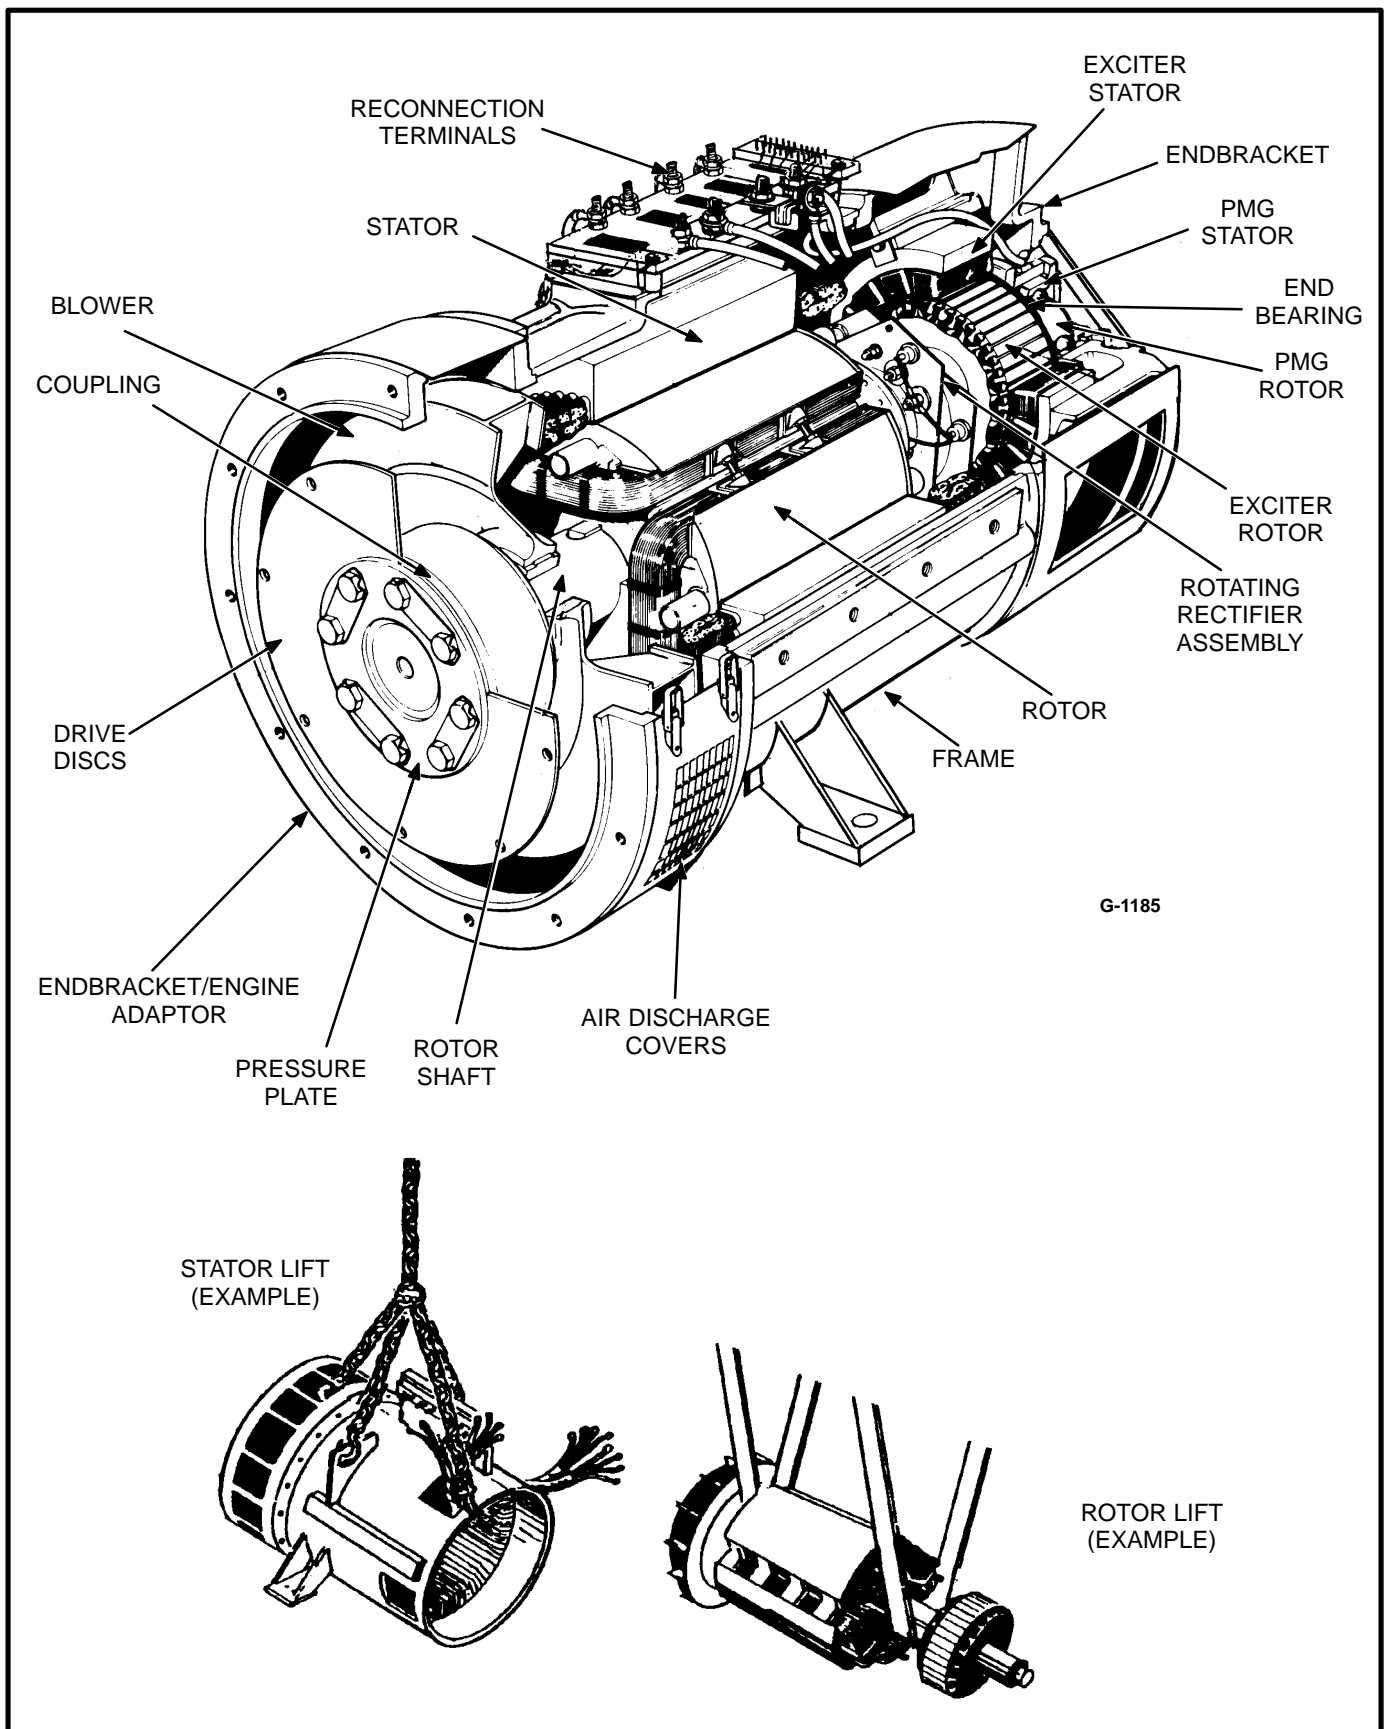
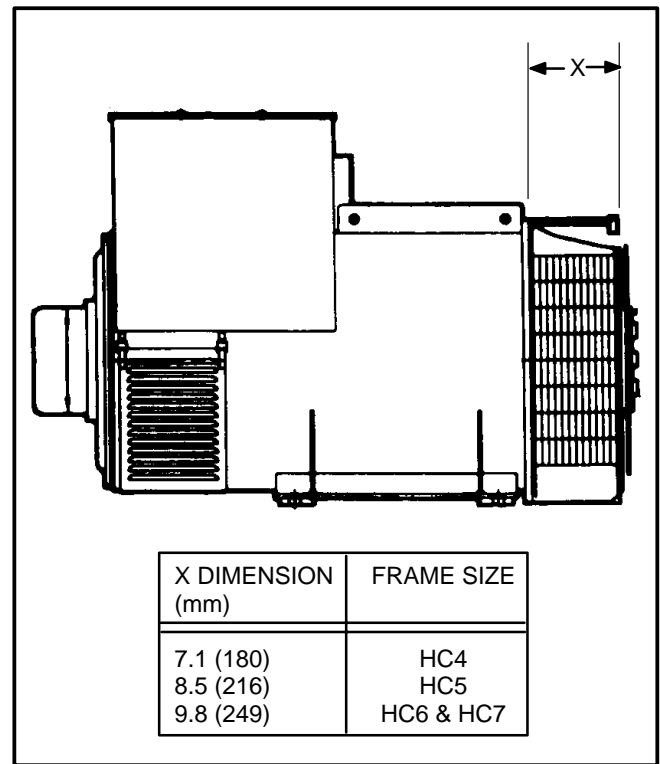

FIGURE 6-11. TYPICAL GENERATOR ASSEMBLY
FIGURE 6-13. GENERATOR FRAME SIZE
22. Using a forklift, position a lifting bar of the forklift (inside and inline with the generator) under the rotor shaft. Lift the rotor shaft slightly so that rotor is not resting on inside of stator assembly. See Figure 6-11.
25. Reposition or add hoist and sling support for the main rotor, and remove the forklift. See Figure 6-11, Rotor Lift detail.
30. Using an adequate lifting device, lift the generator (at lifting eyes provided, and main stator housing) until the mounting feet brackets are clear of the frame member (see Figures 6-11 and 6-12).
2. Align the holes of the engine adaptor endbracket with the holes in the flywheel housing and install the capscrews and lock washers. Refer to Figure 6-13 and Table 6-4 for torque specifications.
3. Secure the rotor assembly to the flywheel. Refer to Figure 6-13 and Table 6-4 for torque specifications.
19. Secure the rotor assembly drive disc to the flywheel using appropriate cap screws and flat washers. Refer to Figure 6-13 and Table 6-4 for torque specifications. Do not allow rotor assembly to hang on engine flywheel. (Refer to Figure 6-11.)
21. Using a forklift, position a lifting bar of the forklift (inside and inline with the generator) under the rotor shaft. Lift the rotor shaft slightly so that rotor is not resting on inside of stator assembly. See Figure 6-11.
22. Remove the hoist/sling support of the rotor assembly. Align the holes of the engine adaptor endbracket with the holes in the flywheel housing and install the capscrews and lock washers. Refer to Figure 6-13 and Table 6-4 for torque specifications.